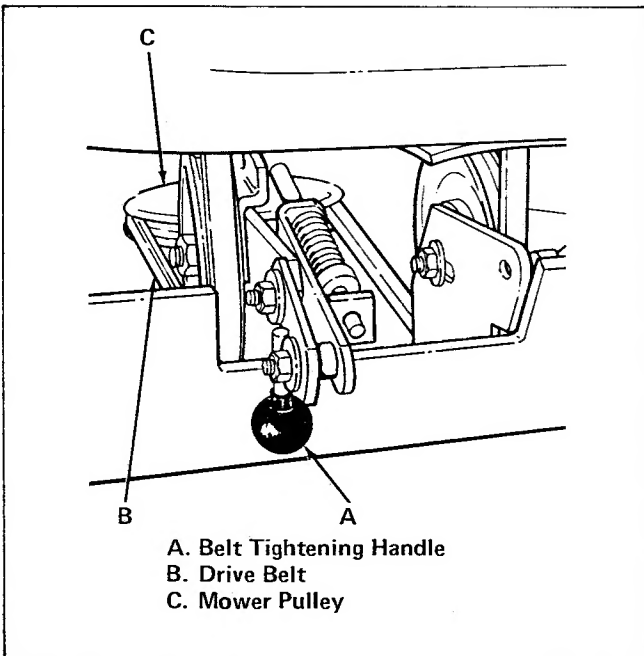

Figure 7. Drive Belt
18. Pull belt tightening handle (item A, figure 7) forward to release position. Place drive belt (item B) around mower pulley (item C). Push belt tightening handle toward tractor and over center to tighten belt.